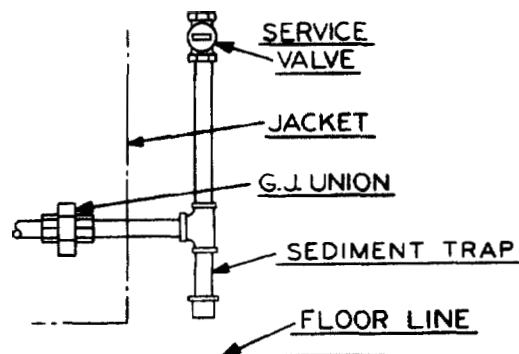

Figure 13: Gas Connection to Boiler
5. Install a sediment trap. See Figure 13. Locate a tee in the drop pipe at same elevation as the gas inlet connection to the boiler. Extend the drop pipe to a pipe cap.
6. Install a ground joint union ahead of the gas control assembly to permit servicing of the control. Some local codes require an additional service valve when using the combination gas controls. If your code requires such a valve, a suggested location is shown in Figure 13.